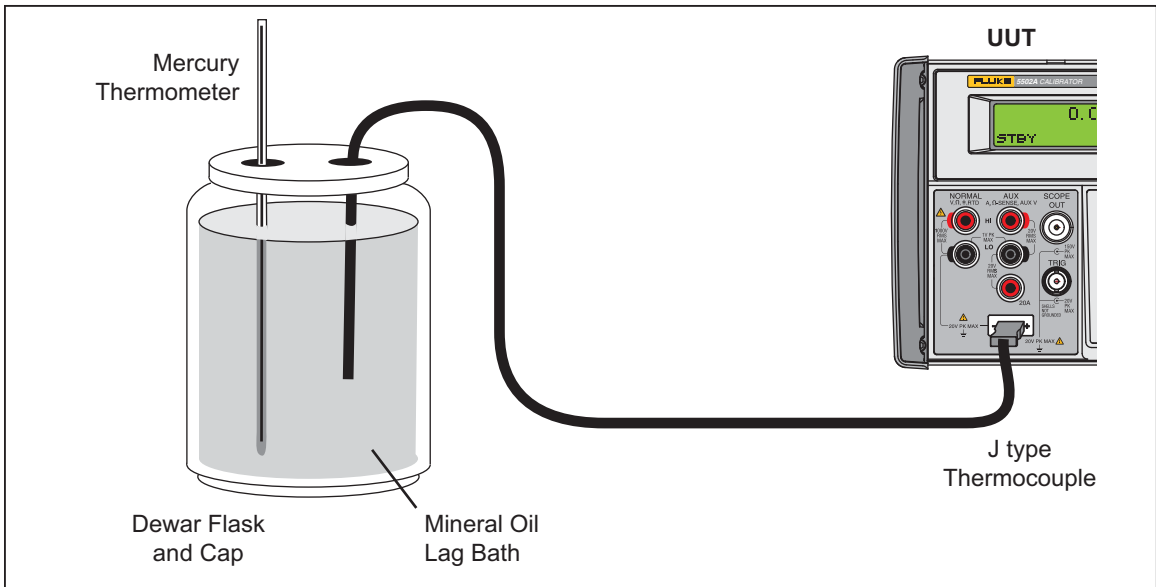

Figure 3-5. Thermocouple Measure Calibration Connections
6. Connect a Type-J thermocouple to the TC terminals on the UUT. Put the thermocouple and a precision mercury thermometer fully in to a mineral oil lag bath that is ± 2 °C of ambient temperature. The test setup is shown in Figure 3-5.